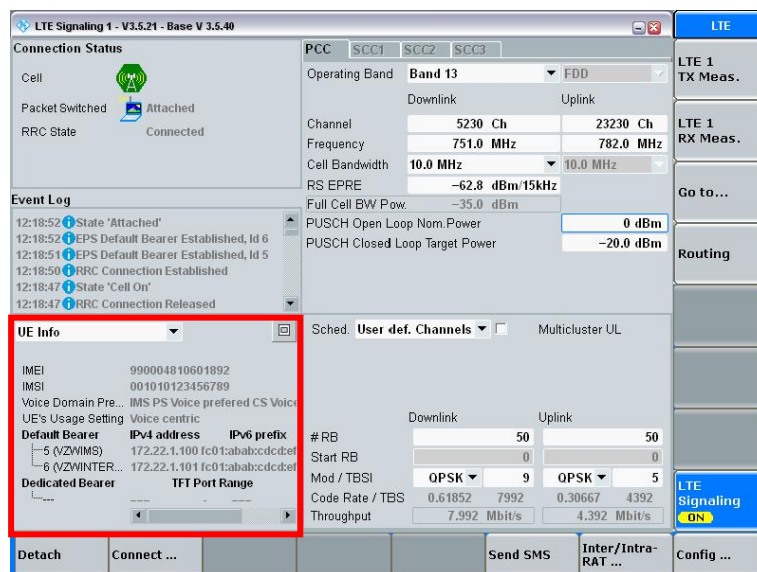

Figure 18: LTE Registration
11. The device under test registers at the LTE cell automatically (see Figure 18).